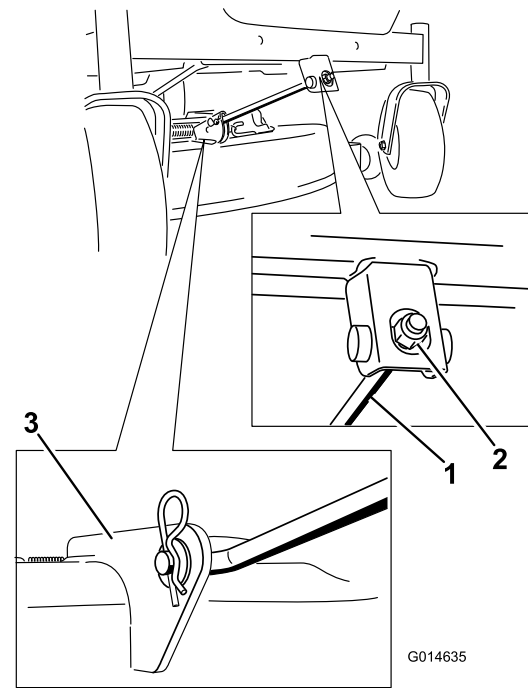

Figure 70
4. Remove the hairpin cotter from the front support rod and remove the rod from the deck bracket (Figure 70).
7. Attach the front support rod to the mower deck with the clevis pin and hairpin cotter (Figure 70).